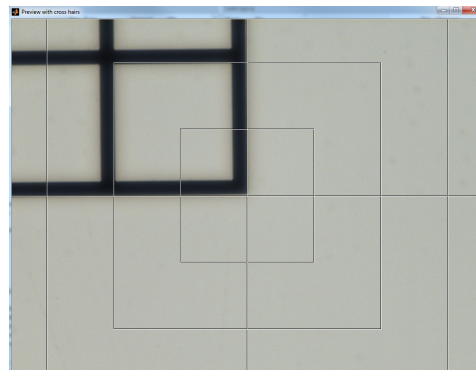

Figure 2
6. Use your hand to adjust the camera to make the reticle in camera image just touch the same boundary of the grid corner.(Figure 2)